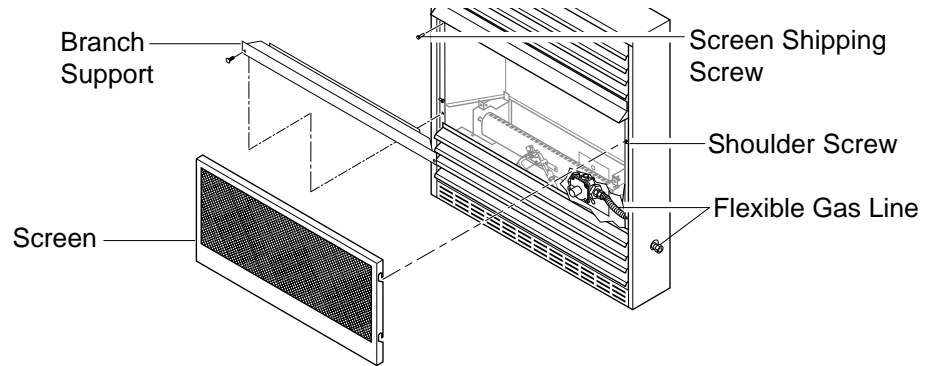

Figure 17 - Removing Log Base Assembly From Fireplace
2. Remove screws that attach branch support to fireplace (see Figure 17). Carefully lift up branch support and remove from fireplace (see Figure 17).